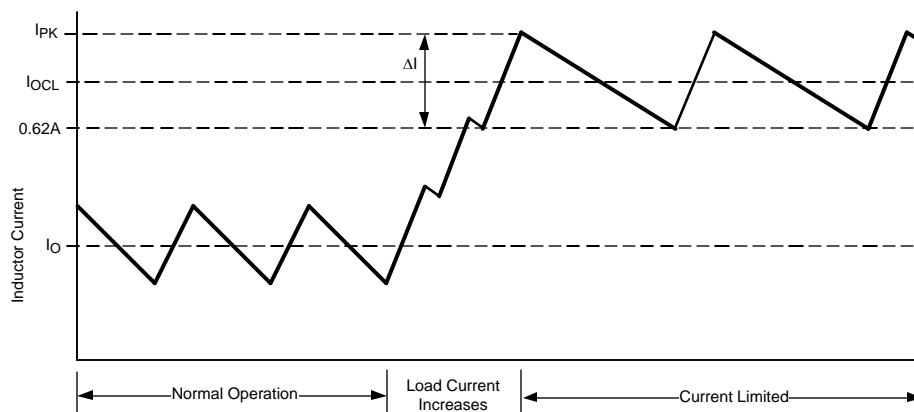

Figure 12. Inductor Current - Current Limit Operation
Figure 12 illustrates the inductor current waveform. During normal operation the load current is  $I_o$ , the average of the ripple waveform. When the load resistance decreases the current ratchets up until the lower peak reaches 0.62A. During the Current Limited portion of Figure 12, the current ramps down to 0.62A during each off-time, initiating the next on-time (assuming the voltage at FB is <2.5V). During each on-time the current ramps up an amount equal to:
**D1:** A Schottky diode is recommended. Ultra-fast recovery diodes are not recommended as the high speed transitions at the SW pin may inadvertently affect the IC's operation through external or internal EMI. The diode should be rated for the maximum  $V_{IN}$  (30V), the maximum load current (0.6A), and the peak current which occurs when current limit and maximum ripple current are reached simultaneously ( $I_{PK}$  in Figure 12), previously calculated to be 0.92A. The diode's forward voltage drop affects efficiency due to the power dissipated during the off-time. The average power dissipation in D1 is calculated from: